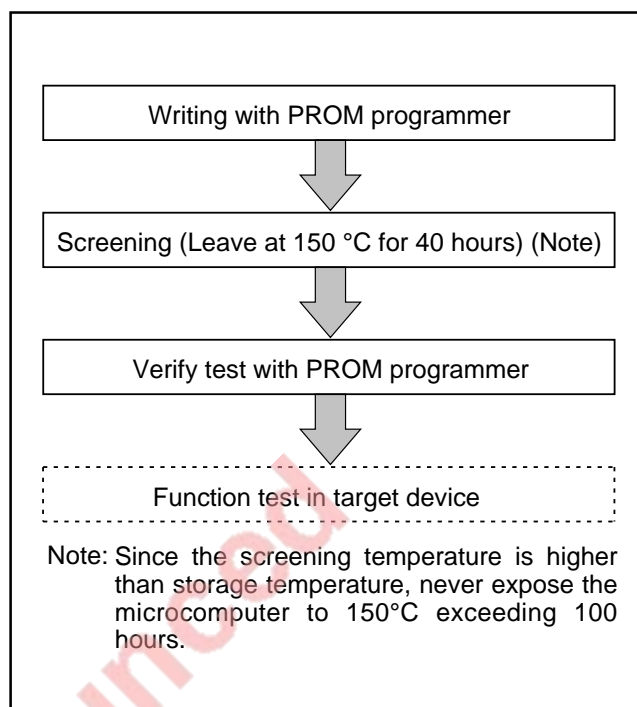

Fig. 33 Flow of writing and test of the product shipped in blank
(2) Notes on handling
- ① A high-voltage is used for writing. Take care that overvoltage is not applied. Take care especially at turning on the power.
- ② For the One Time PROM version shipped in blank, Mitsubishi Electric corp. does not perform PROM writing test and screening in the assembly process and following processes. In order to improve reliability after writing, performing writing and test according to the flow shown in Figure 33 before using is recommended (Products shipped in blank: PROM contents is not written in factory when shipped)